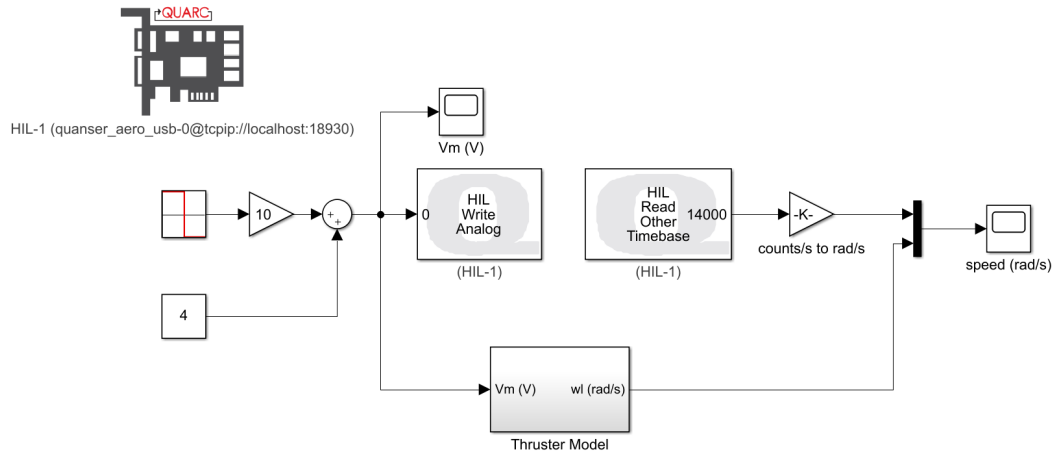

Figure 2.1: Applies a step voltage and displays measured and simulated Quanser Aero speed.
- 2.1 Open `q_aero_thruster_model.slx`. This model applies a 6-14V, 0.5 Hz square wave to motor 0 and reads the propeller velocity using the tachometer as shown in Figure 2.1